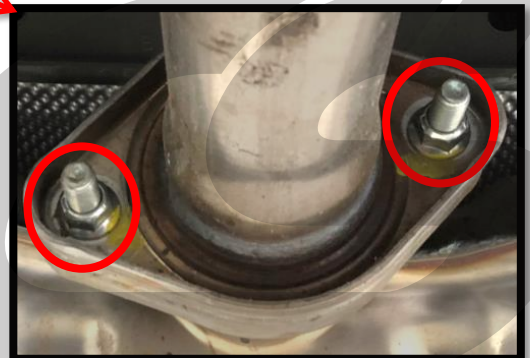

Figure 1b
c) Using a 14mm socket & ratchet, remove the two nuts that connect the OEM axle back section to the OEM midpipe section. Nuts are shown circled in red in **Figure 1b**.